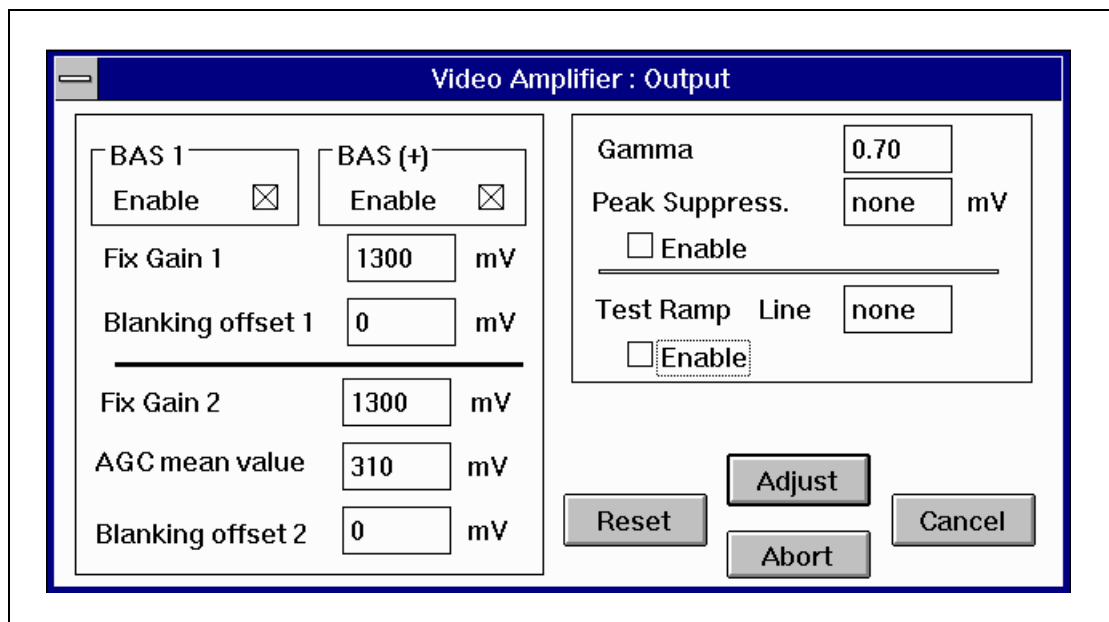

Fig. 1
- Change the values as shown in the **Video Amplifier: Output** window. Select **"Adjust"** and let the video amplifier adjust itself (Fig.1).